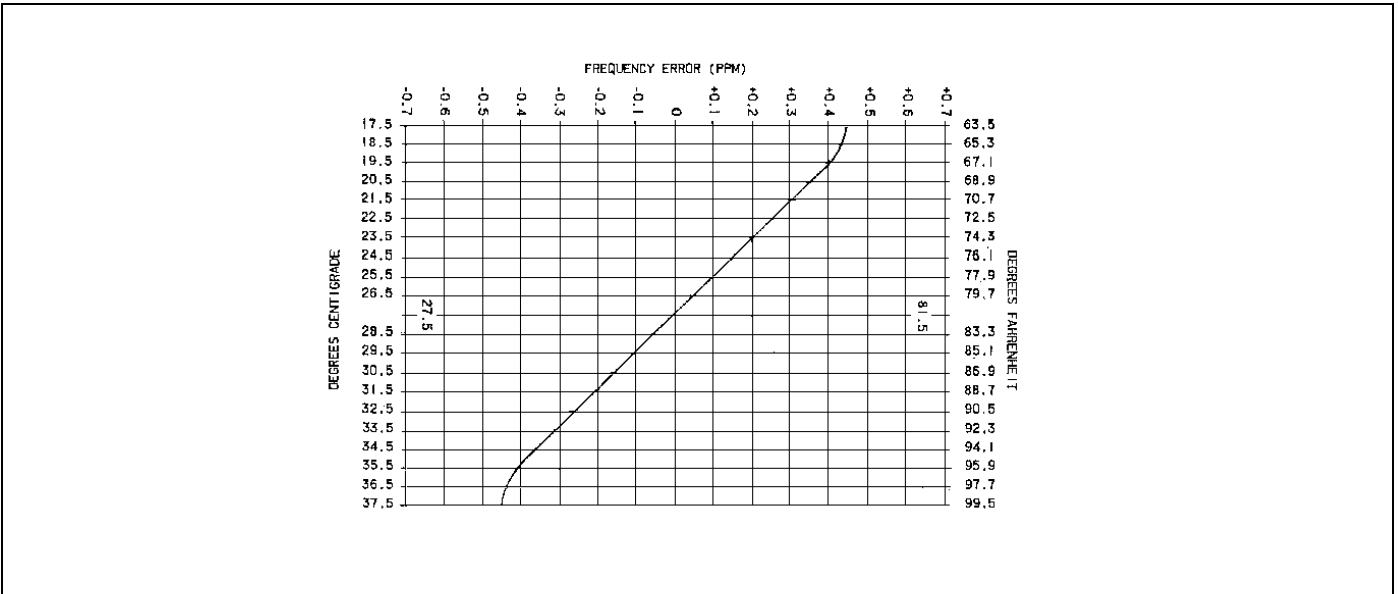

Figure 7 - Frequency Characteristics Vs. Temperature
2. Maintain the radio at 27.5°C ($\pm 10^\circ\text{C}$) and offset the oscillator, as a function of actual temperature by the amount shown in the chart (see Figure 7).